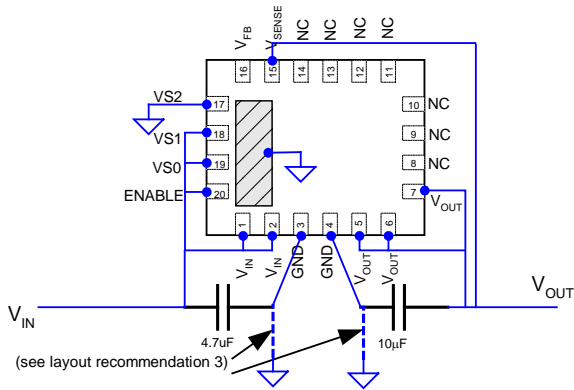
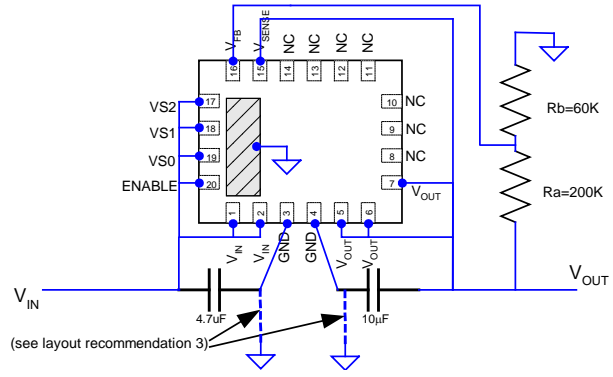

Figure 6. Example application,  $V_{out}=1.5V$ .
Figure 7. Example Application, external divider,  $V_{out} = 2.6V$ .
**Recommendation 3:** Multiple small vias (0.25mm after copper plating) should be used to connect ground terminals of the Input capacitor and the output capacitor to the system ground plane. This provides a low inductance path for the high-frequency AC currents; thereby reducing ripple and suppressing EMI (see Fig. 6, Fig. 7, and Fig. 8).
Figure 6 shows an example schematic for the EN5312QI using the internal voltage select. In this example, the device is set to a VOUT of 1.5V ( $VS2=0$ ,  $VS1=1$ ,  $VS0=1$ ).
Figure 7 shows an example schematic using an external voltage divider.  $VS0=VS1=VS2=“1”$ . The resistor values are chosen to give an output voltage of 2.6V.